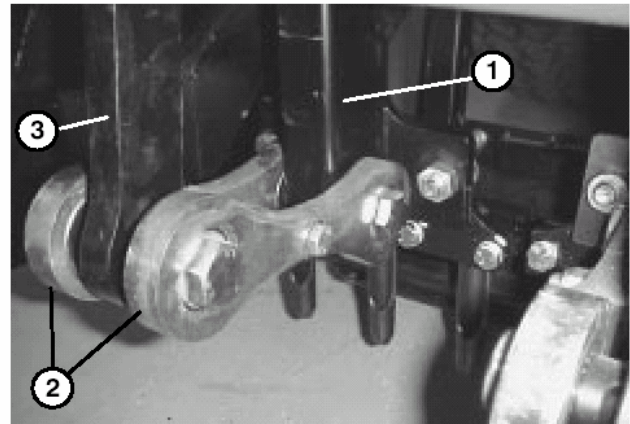

Figure 2
6. Remove the fasteners securing the bottom of the tine arm or roto-link arm to the bottom links (Fig. 2). Align the tine arm with the slot in the frame and slide off the crank pin.
21. Reinstall the bottom of the tine arms to the bottom links or to the roto-link arm with the fasteners removed (Fig. 2).